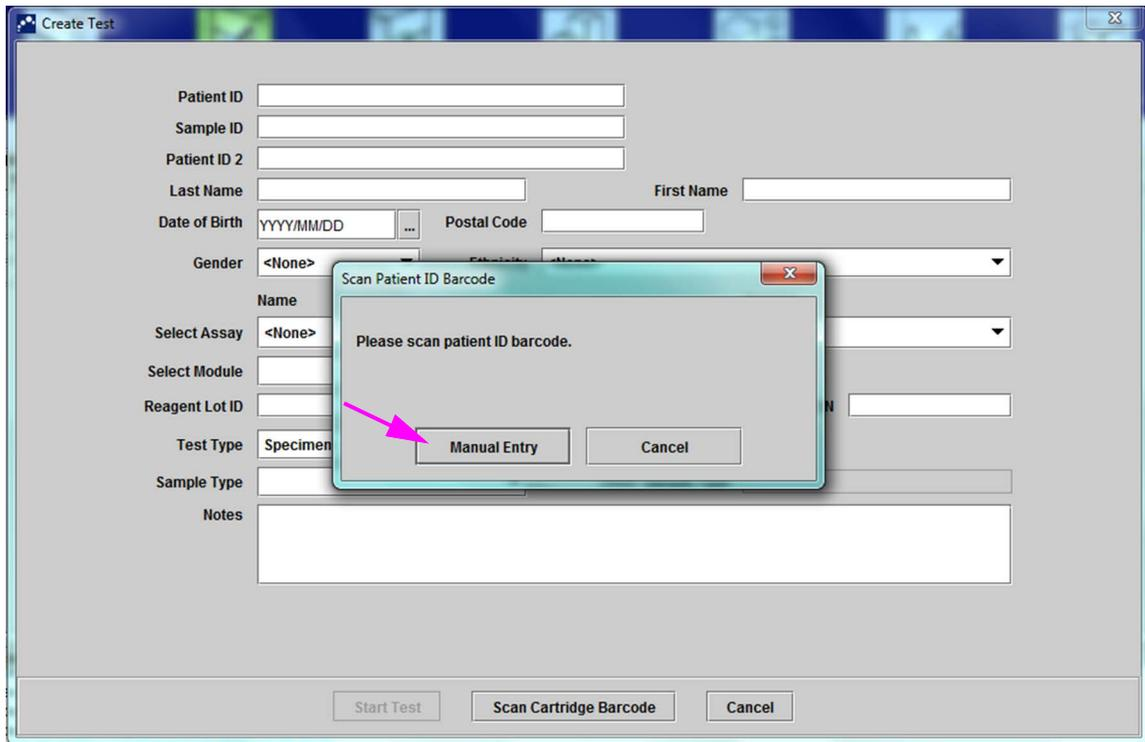

Figure 5-19. Create Test Window and Scan Patient ID Barcode Dialog Box
1. In the GeneXpert Dx System window, click **Create Test** on the menu bar. The Scan Patient ID Barcode dialog box appears. See Figure 5-19.